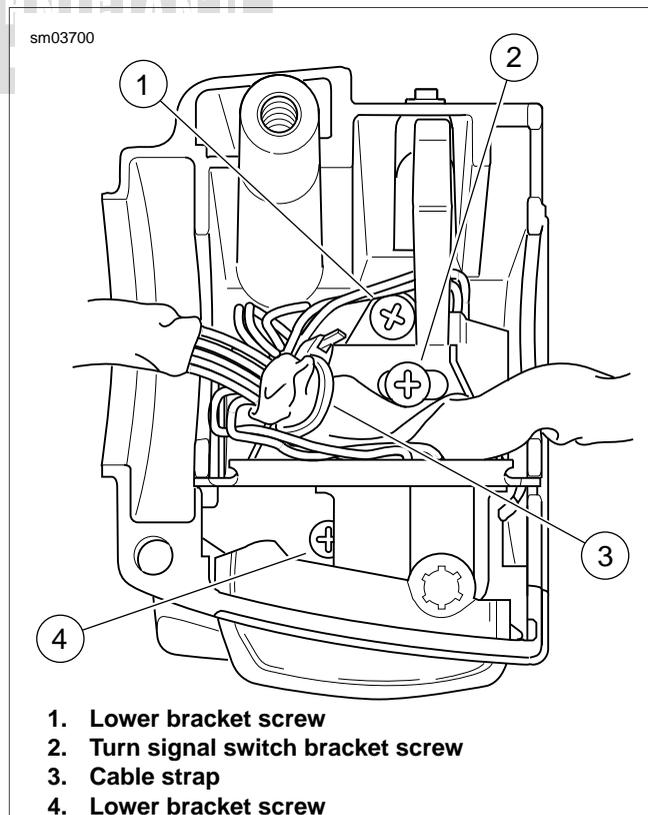

Figure 8-142. Lower Left Handlebar Switch Housing (Without Splices) - Classic/Ultra Models
2. Remove two lower bracket screws. See Figure 8-142. Pull bracket and switch from switch housing.